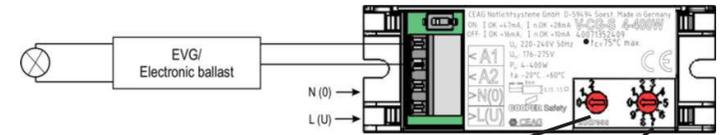

Bild 1/Fig. 1
Die Netzverbindung ist an den Klemmen L(U), N(O), die Zuleitung zur angeschlossenen Leuchte an den Klemmen A1, A2, herzustellen (Bild 1).
The mains connection has to be set to terminals L(U) and N(0), for luminaire connections terminals A1 - A2 have to be used (Fig 1). A slide-switch is used for preselection of connected load. The limit for ok/not ok depends on the setting of the switch: